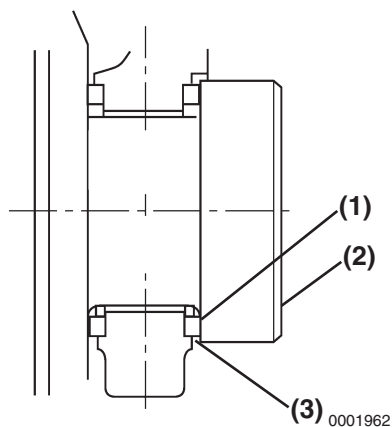

Figure 6-103
- **Method B:** Use a feeler gauge to measure the clearance (**Figure 6-103, (3)**) between the thrust bearing (**Figure 6-103, (1)**) and crankshaft (**Figure 6-103, (2)**). Record the measurement. See *Thrust Bearing* on page 6-14 for the service limit.